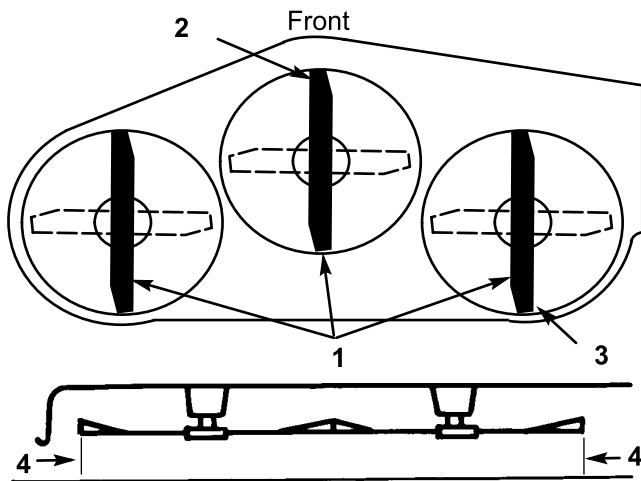

Figure 48
8. Set the height-of-cut at 3 inch (76 mm) and carefully rotate the blades so they are facing front to rear (Figure 48).
9. Measure between the tip of the front blade (Figure 48) and the tip of the rear blade to the flat surface. If the front blade tip is not 1/16-5/16 inch (1.6-7.9 mm) lower than the rear blade tip, adjust the front trunion rods.
12. After adjusting both trunion rod yokes evenly, secure the yokes with the hairpin coppers. Check the front-to-rear level again. Continue adjusting the yokes until the front blade tip is 1/16-5/16 inch (1.6-7.9 mm) lower than the rear blade tip (Figure 48).